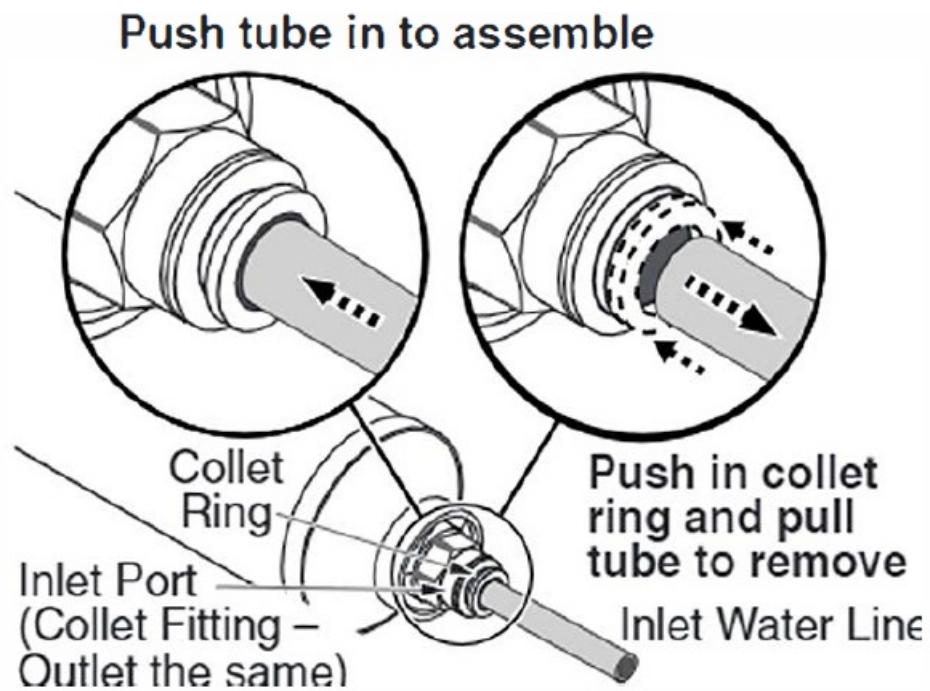

Figure 2
2. Remove the tubing from the ends of the unit. See Figure 2.